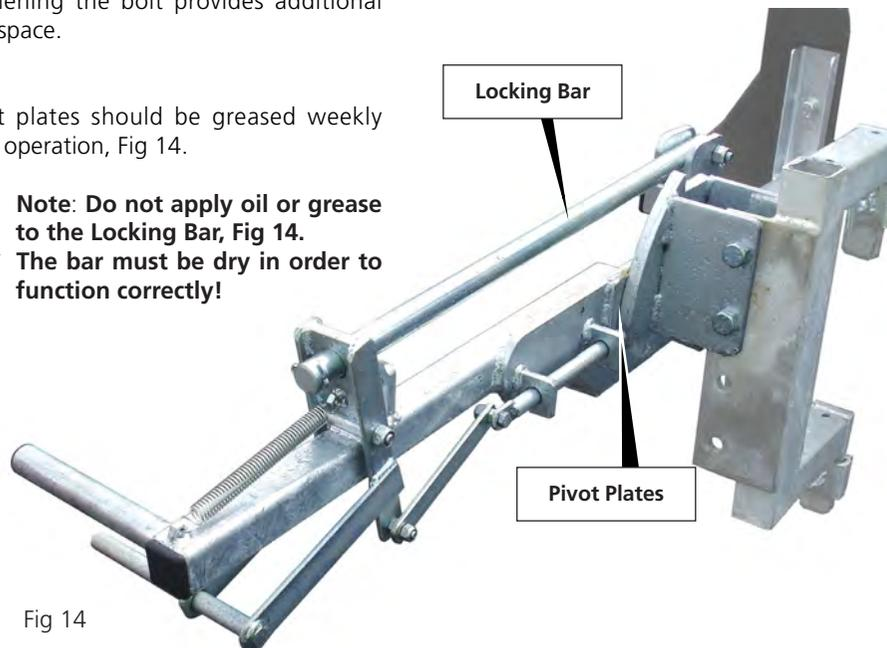

Fig 14
- Pivot plates should be greased weekly during operation, Fig 14.
Note: Do not apply oil or grease to the Locking Bar, Fig 14. The bar must be dry in order to function correctly!